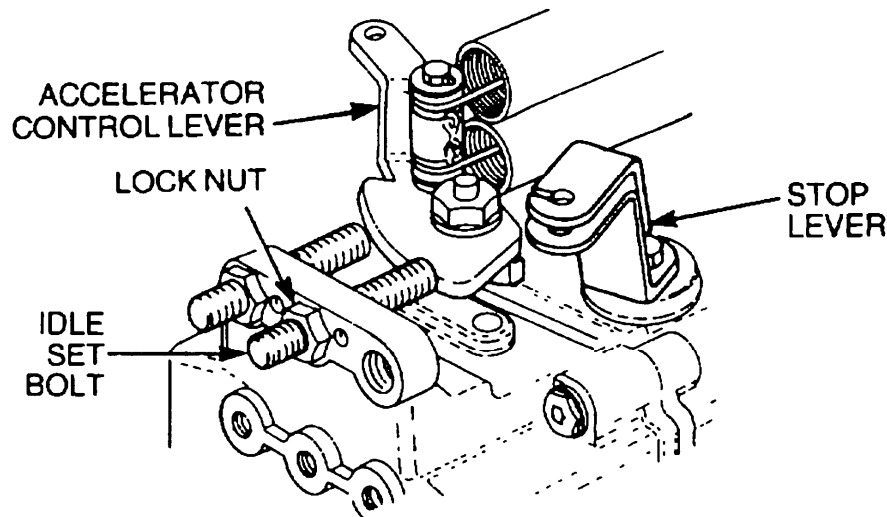

Figure 40 Accelerator Cable and Idle Speed Adjustment
- b. Ensure the control lever is in contact with the idle set bolt when the accelerator pedal is in the 'OFF' position (Figure 40).